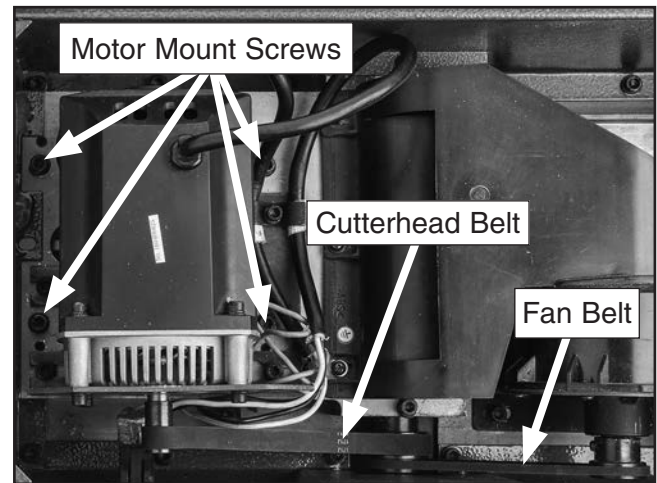
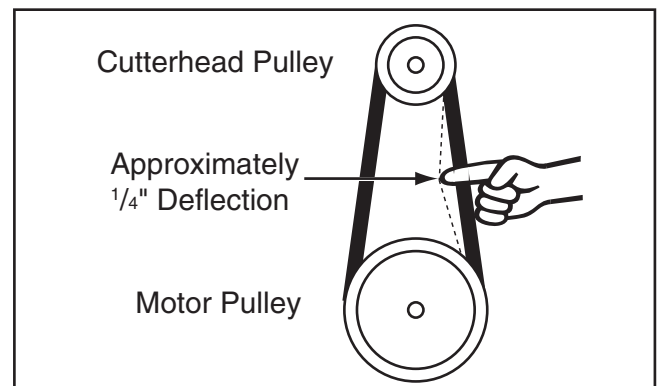

Figure 55. Motor mounting screws and belt locations (cover removed).
Figure 56. Correct belt deflection when properly tensioned.
6. To release belt tension, loosen the four motor mounting cap screws (see **Figure 55**), but do not remove them.
8. Re-align and re-tension belt (see **Figure 56**) by tightening four motor mounting cap screws (see **Figure 55**). Adjust belt tension to allow approximately 1/4" deflection between pulleys.